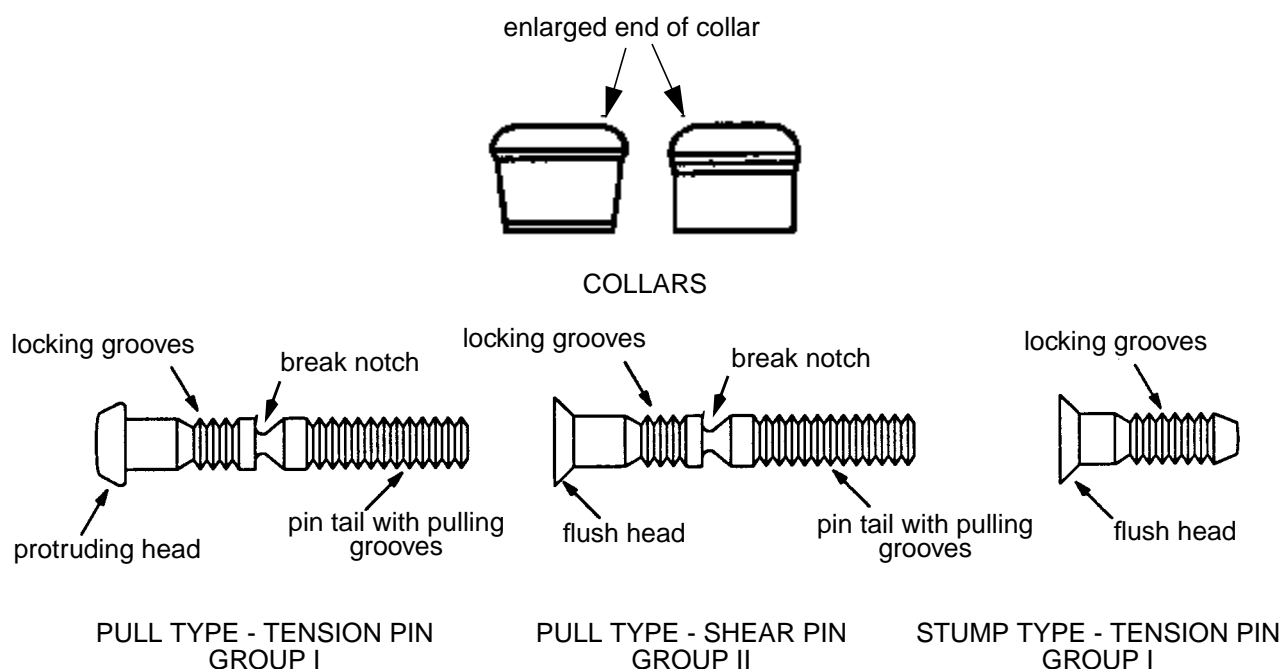

Figure 1 - General Description of Lockbolt Fasteners
- 4.1.1 Lockbolt fasteners and collars as specified on the Engineering Drawing. Refer to Figure 1 for a general description of lockbolt fasteners.